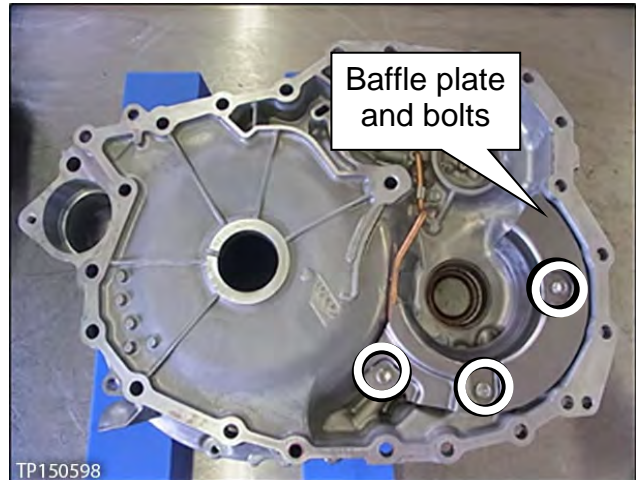

Figure 154
a. Remove the three bolts, and then remove the baffle plate from the converter housing (Figure 154).